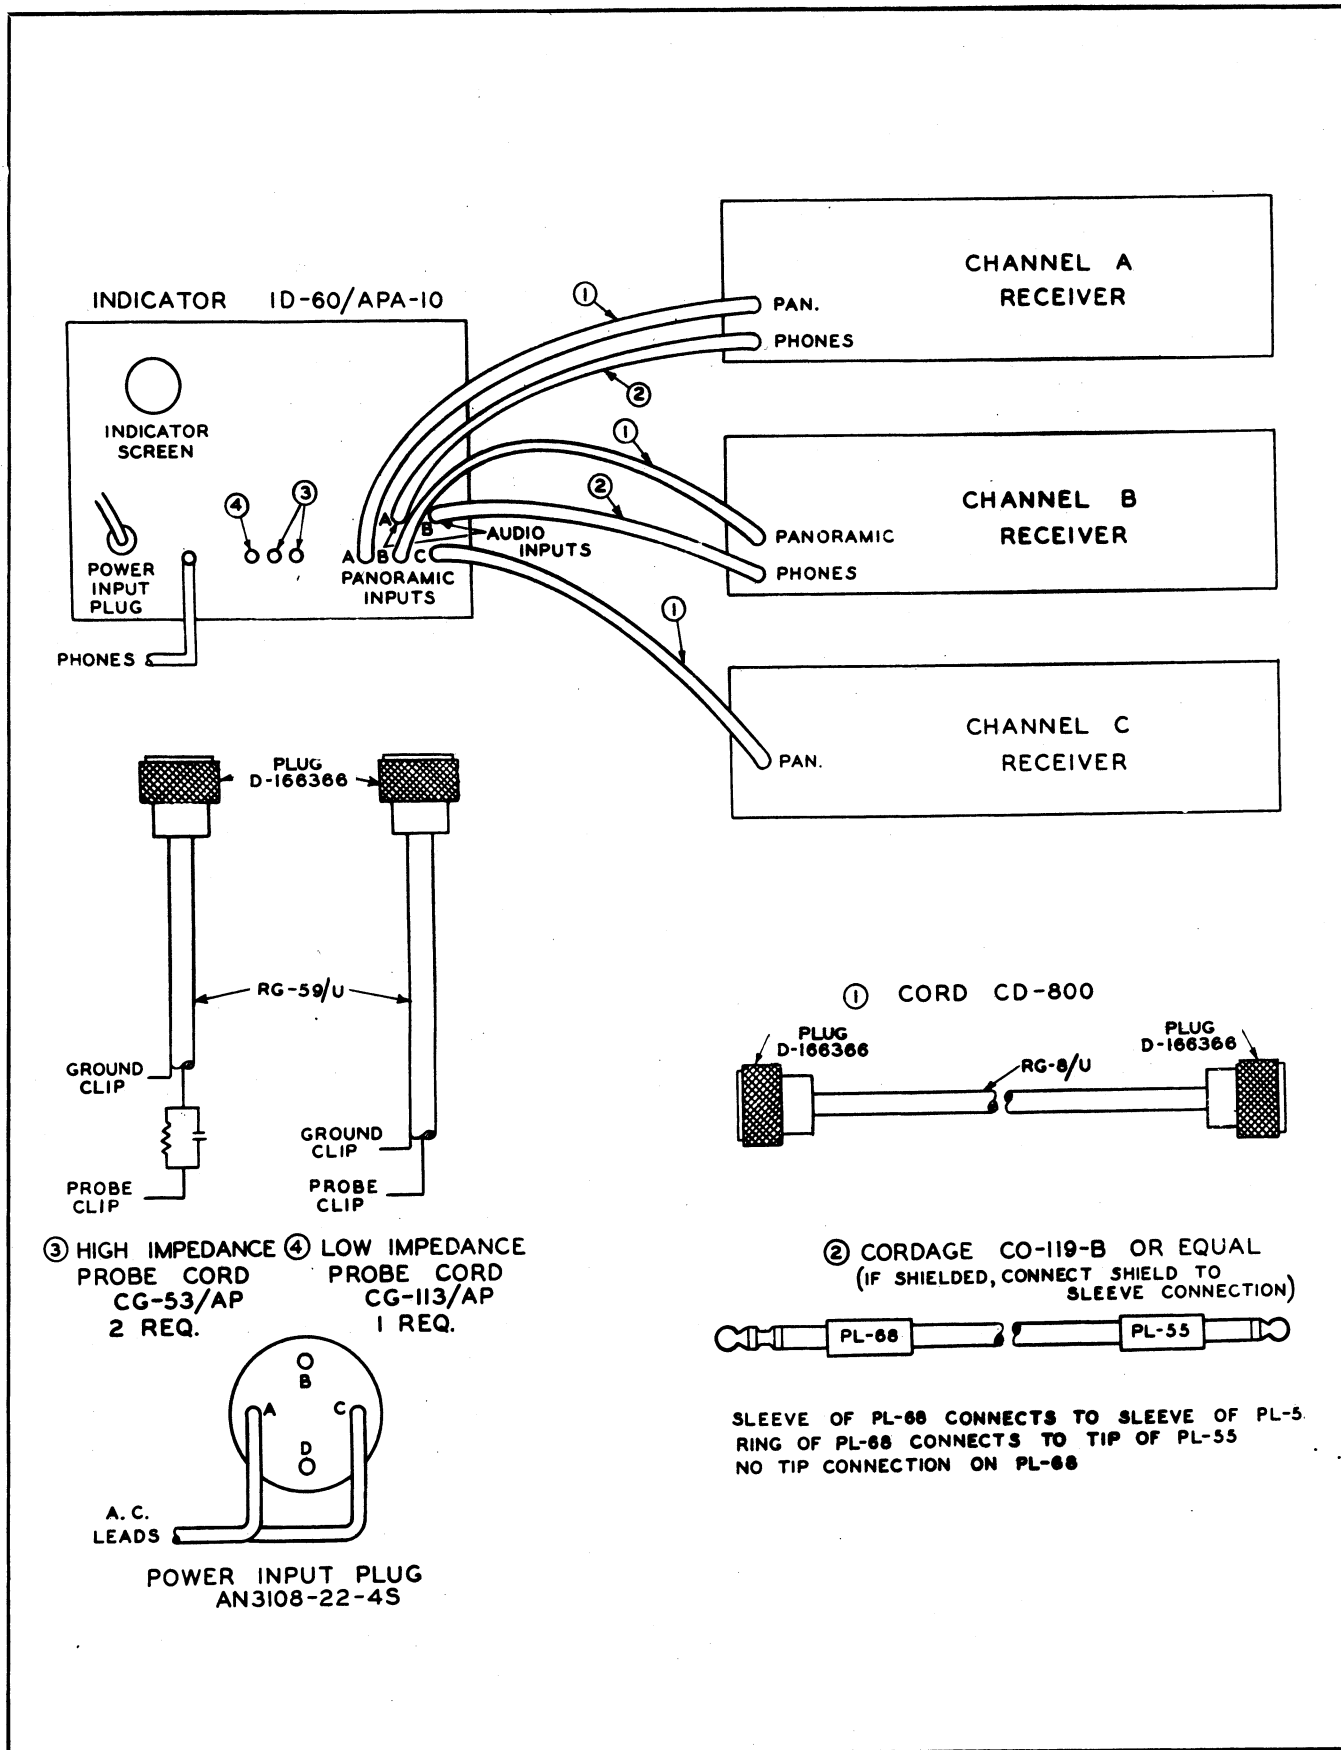

Figure 2-3. Cable Connections
c. Connect Panoramic Adapter AN/APA-10 to associated receivers as shown in figure 2-3. Connect the r-f input jacks on the unit (marked "PANORAMIC INPUTS") to the receiver outputs marked "PAN." Notice that a 30-inch cord is used for channel A, and 20-inch cords are used for B and C channels. The right angle adapter, Adapter M-359, is used on these cords. Connect audio outputs (the jacks marked "PHONES") of receivers for A and B channels to the indicator panel jacks marked "AUDIO INPUTS" using the cords shown in figure 2-4. Plug a headset equipped with a Plug PL-55 into the "PHONES" jack of Indicator ID-60/APA-10.
(1) Make certain all cables and cords are connected properly. (See fig. 2-3.)
(2) Turn on the associated equipment, the inverters and the receivers.
(3) Turn the "ON-OFF" switch on Indicator ID-60/APA-10 to "ON" position. If the pilot lamp on Indicator ID-60/APA-10 does not appear to light, rotate the lamp bezel from zero to maximum counter-clockwise position until it glows with the intensity desired.